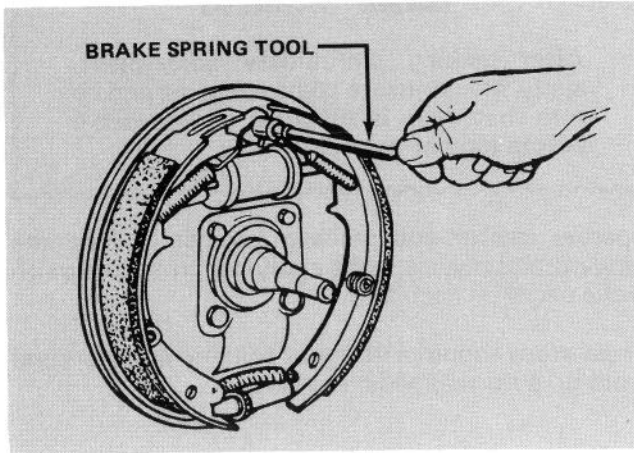

Figure 93
4. Remove shoe return springs (Fig. 93) and automatic adjuster spring. Then remove automatic adjuster cable, cable guide, adjuster lever and shoe guide plate, if used.